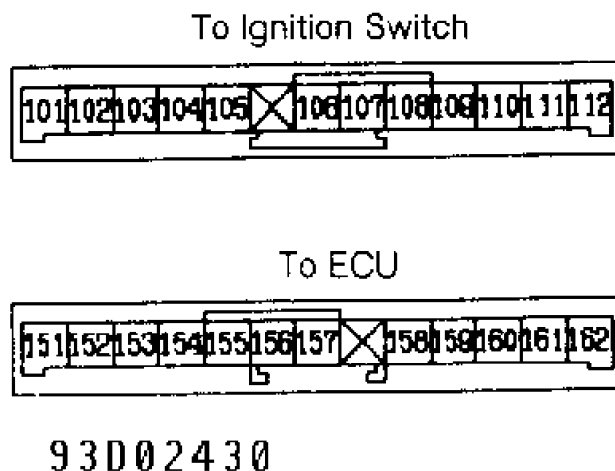

Fig. 2: Identifying Instrument Cluster Connector Terminals
2) Remove instrument cluster. Turn ignition on. Using DVOM, measure voltage between vehicle ground and instrument cluster ABS warning light terminal No. 107. See Fig. 2. If battery voltage is present, repair or replace instrument cluster. If battery voltage is not present, repair wire harness between junction block and instrument cluster.
3) Turn ignition off. Check for faulty warning light bulb. Replace bulb as necessary. If bulb is okay, using an ohmmeter, check for continuity between instrument cluster connector terminals No. 107 and 158. See Fig. 2. If continuity exists, clean and/or repair connector terminals. If connector terminals are okay, check for open circuit to ECU and valve relay. Go to steps 4) and 5). If continuity does not exist, replace instrument cluster.